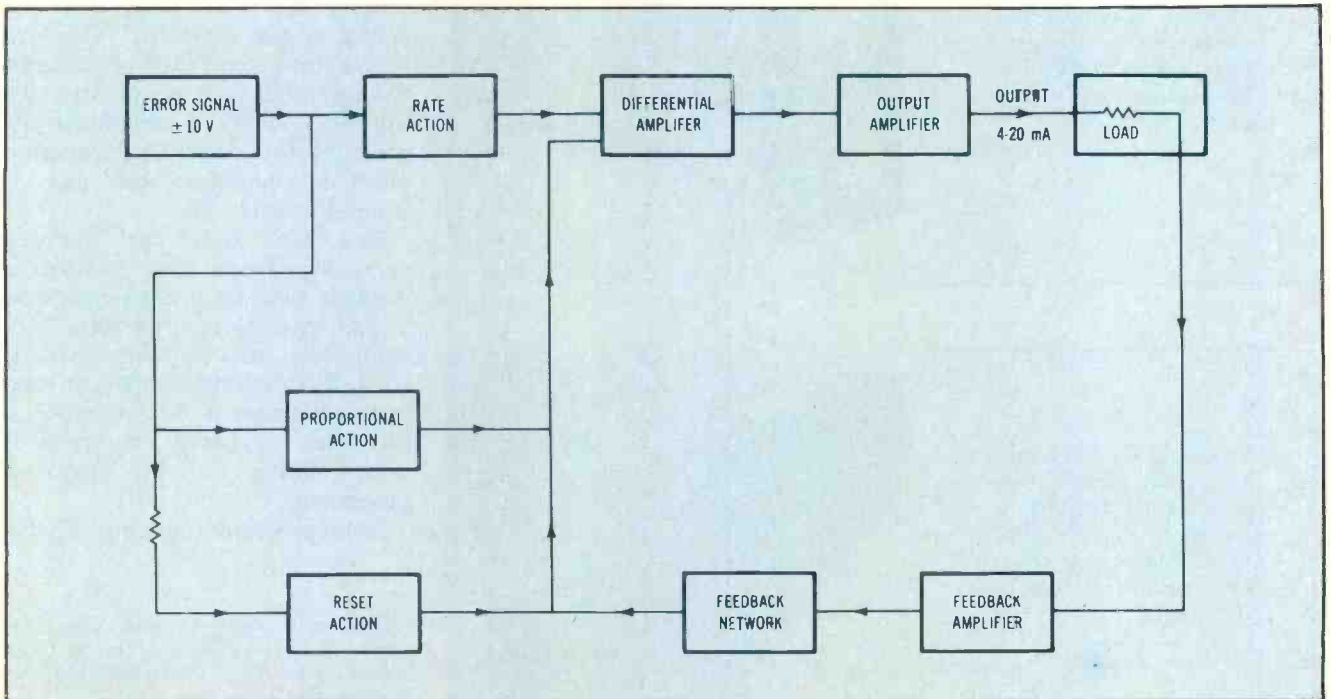

Figure 4. Block diagram of a typical controller.
Figure 4 is a block diagram of a typical controller. Three modes of operation are incorporated in this instrument: (1) proportional action, (2) reset action, and (3) rate action. They will be discussed in connection with the input circuits of the controller.
Using the previous controller block diagram (Figure 4) as a general reference, vacuum tubes can be used to achieve the same basic modes of controller operation as those of the transistor circuits. In general, these circuits are considered obsolete today. A large number of vacuum-tube controllers are, however, still being used in many applications.